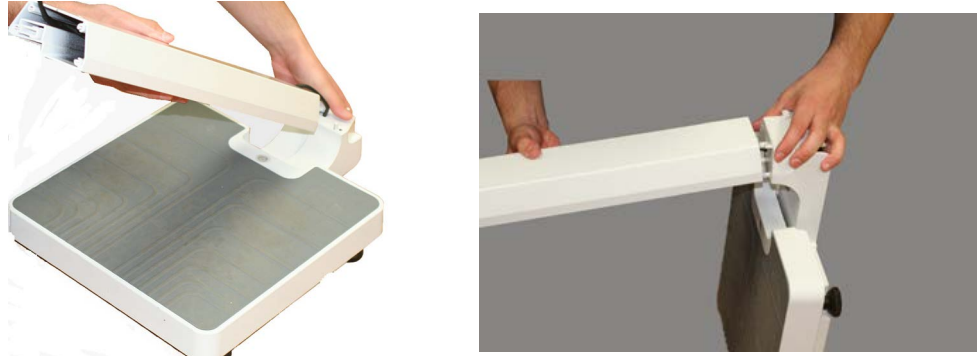

Figure 2-2. Attach Scale Column to Scale Base
4. Attach the scale column to the base as shown in Figure 2-2 making sure not to pinch the cable.